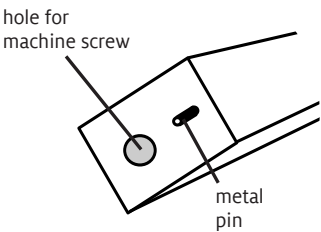

FIGURE 6: TREADLE SUPPORT
14. Attach the height extender blocks to the treadle assembly: insert the metal pins from the treadle support (Figure 6, page 4) into the small holes and the metal treadle bar ends into the 2nd hole from the bottom of the height extender blocks. Insert the saved barrel nuts into the treadle support and thread new 1/4-20 x 2-1/2" Phillips truss head machine screws into them, from the outer side of the height extender blocks through the bottom holes. Use a slotted screwdriver to hold the barrel nut in position. Secure the treadle support firmly.